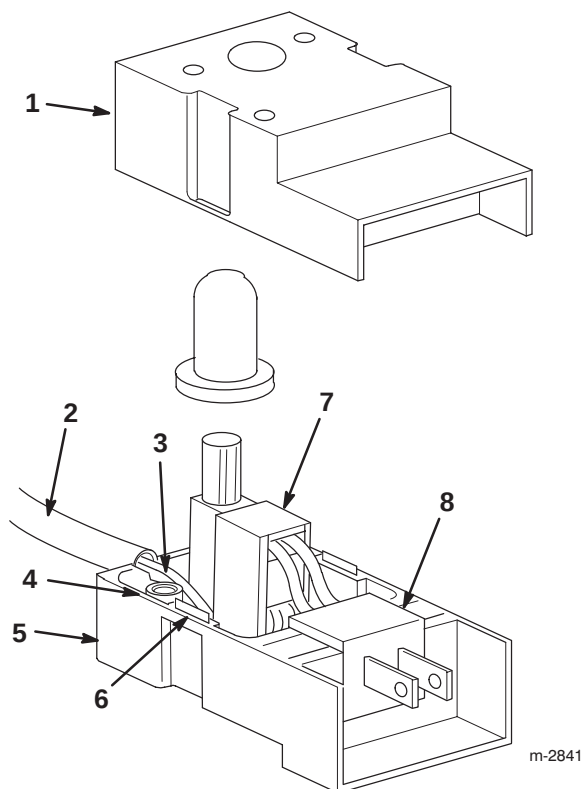

Figure 7
1. Push in the locking tabs and separate the switch housing cover from the switch housing base (Fig. 7).
2. Pull the switch and the AC connector out of the switch housing base (Fig. 7).
Note: Ensure that the slots in the AC connector fit into the matching cutout in the base (Fig. 7).
- Route the starter wires between the switch and the inside of the screw boss, then out through the serrated cord opening in the switch housing base (Figs. 7 and 9).
- Carefully push the starter wires down between the switch and the screw boss with a blunt object (Figs. 7 and 9).
- Snap the switch housing cover back onto the switch housing base (Fig. 7).